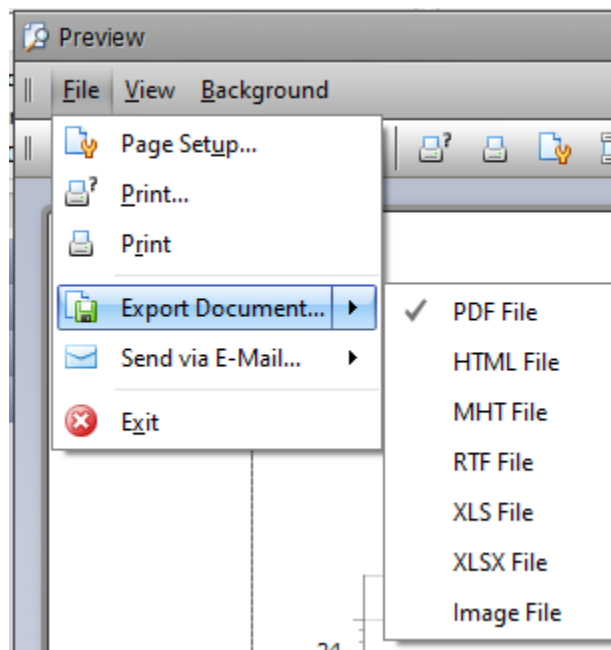

Figure 4-42: Export format options
3. Hover your cursor over **Export Document**. A window will appear showing the different export options (Figure 4-42).